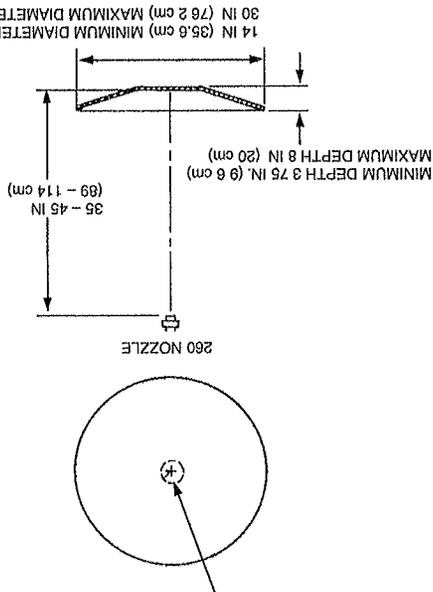

FIGURE 64
1. A 260 nozzle, Part No. 419341, will protect a wok 14 in. (36 cm) minimum diameter up to 30 in. (76 cm) maximum diameter. The wok depth must be no less than 3.75 in. (9.5 cm) and no greater than 8 in. (20 cm). The nozzle tip is stamped with 260 indicating that this is a two-flow nozzle and must be counted as two flow numbers. When using this nozzle, the nozzle must be positioned as shown in Figure 64.